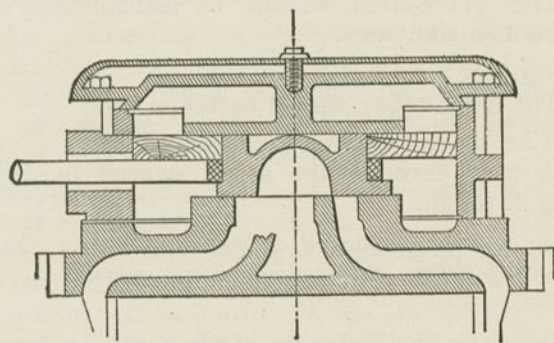

Fig. 366. Balanced Valve Blocked in Steam Chest.
A. It should be removed, and if unbalanced, a flat piece of inch board laid on the seat to cover the ports; on this the valve should be laid, at mid-travel; both the board and the valve blocked, the chest-lid put on, the stuffing-box plugged with waste or packing (held in by the gland), the main rod taken down and the crosshead blocked; then the engine may go on with as much train as possible. In the case of a balanced valve the board on the seat is omitted. (Fig. 366.)